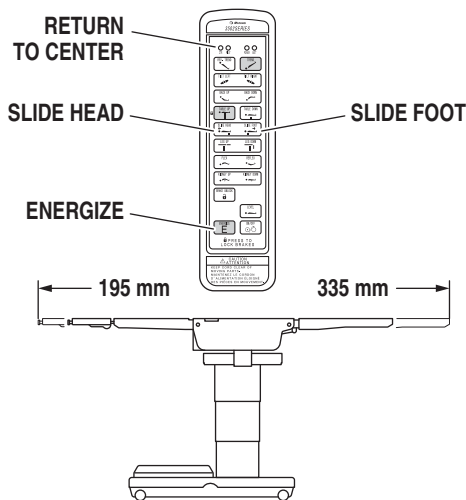

Figure 2-13. Top Slide
f. Top Slide To move the table top toward the head end, press the ENERGIZE button and then the SLIDE HEAD button. From center position, the top will slide up to 195mm. See figure 2-13.